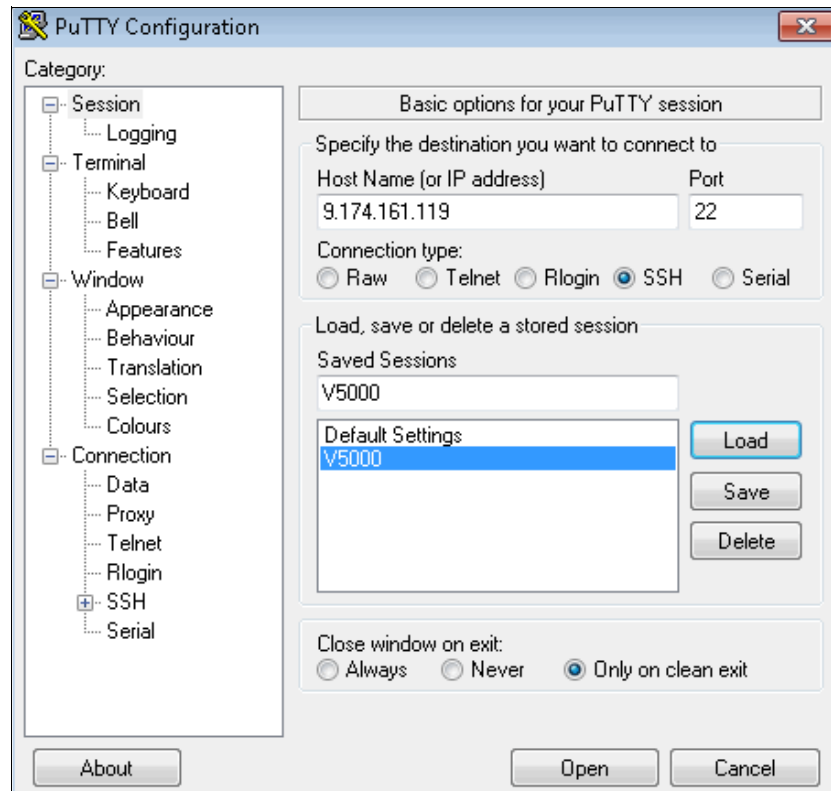

Figure A-13 Enter session information
6. In the right side pane, enter the host name or system IP address of the IBM Storwize V5000 clustered system in the Host Name field. Enter a session name in the Saved Sessions field, as shown in Figure A-13.